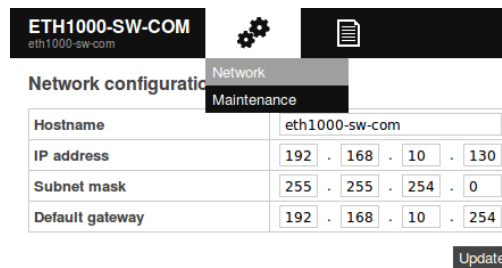

Figure 6.6 Screenshot showing how to configure local IP settings on own web page.
3. Choose "Network" from the first drop-down menu, see Figure 6.6 for a screenshot.